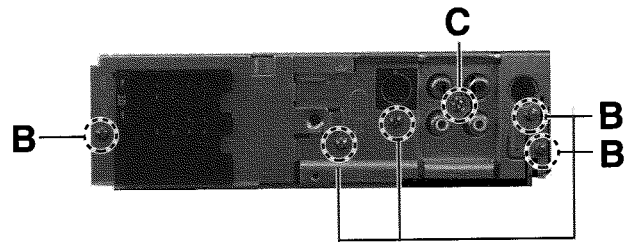

Fig. 6
■ **Removing the rear panel (See Fig.6)**
■ **Removing the sub chassis (See Fig.6)**